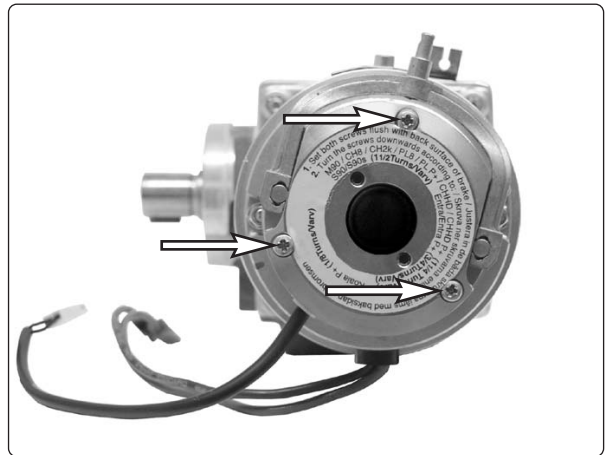

Fig. 23. Magnetic brake fixing bolts.
12. Remove the three bolts that hold the brake, see fig. 23. Note the position of the brake release arm and rubber seal for refitting. Remove the brake, complete with the disc and cover.